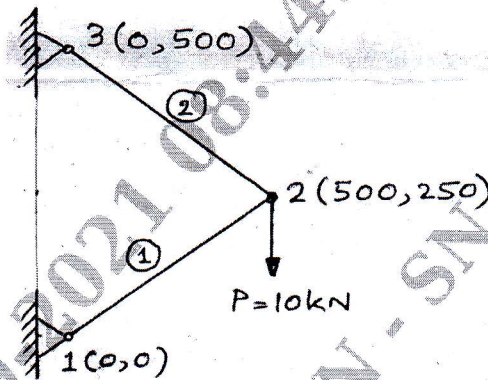

Fig. Q6 (b)
b. Find the displacements at the nodes for the pin jointed plane truss shown in Fig. Q6 (b). Also find the stresses in the members of the truss. Assume  $E = 200 \text{ GPa}$ ;  $A_1 = 75\text{mm}^2$  and  $A_2 = 50\text{mm}^2$ . (12 Marks)